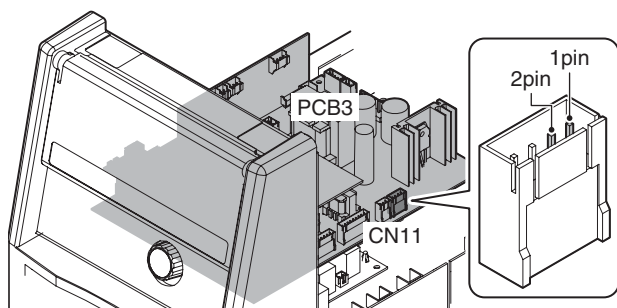

Figure 11-12: Verification of the FAN1
- 1) Verify the condition of the cooling fan, FAN1, using a DC voltmeter. (The capability of the voltmeter should be more than 50VDC.) Using a DC voltmeter, measure between PIN 1 (Positive [+]) and PIN 2 (Negative [-]) of CN11 on PCB3 (WK-5548). The location of connector CN11 of PCB3 is indicated in Figure 11-12. When you measure the above voltage, do not remove the connector. Conduct the measurement while the connector plug and receptacle are still connected.